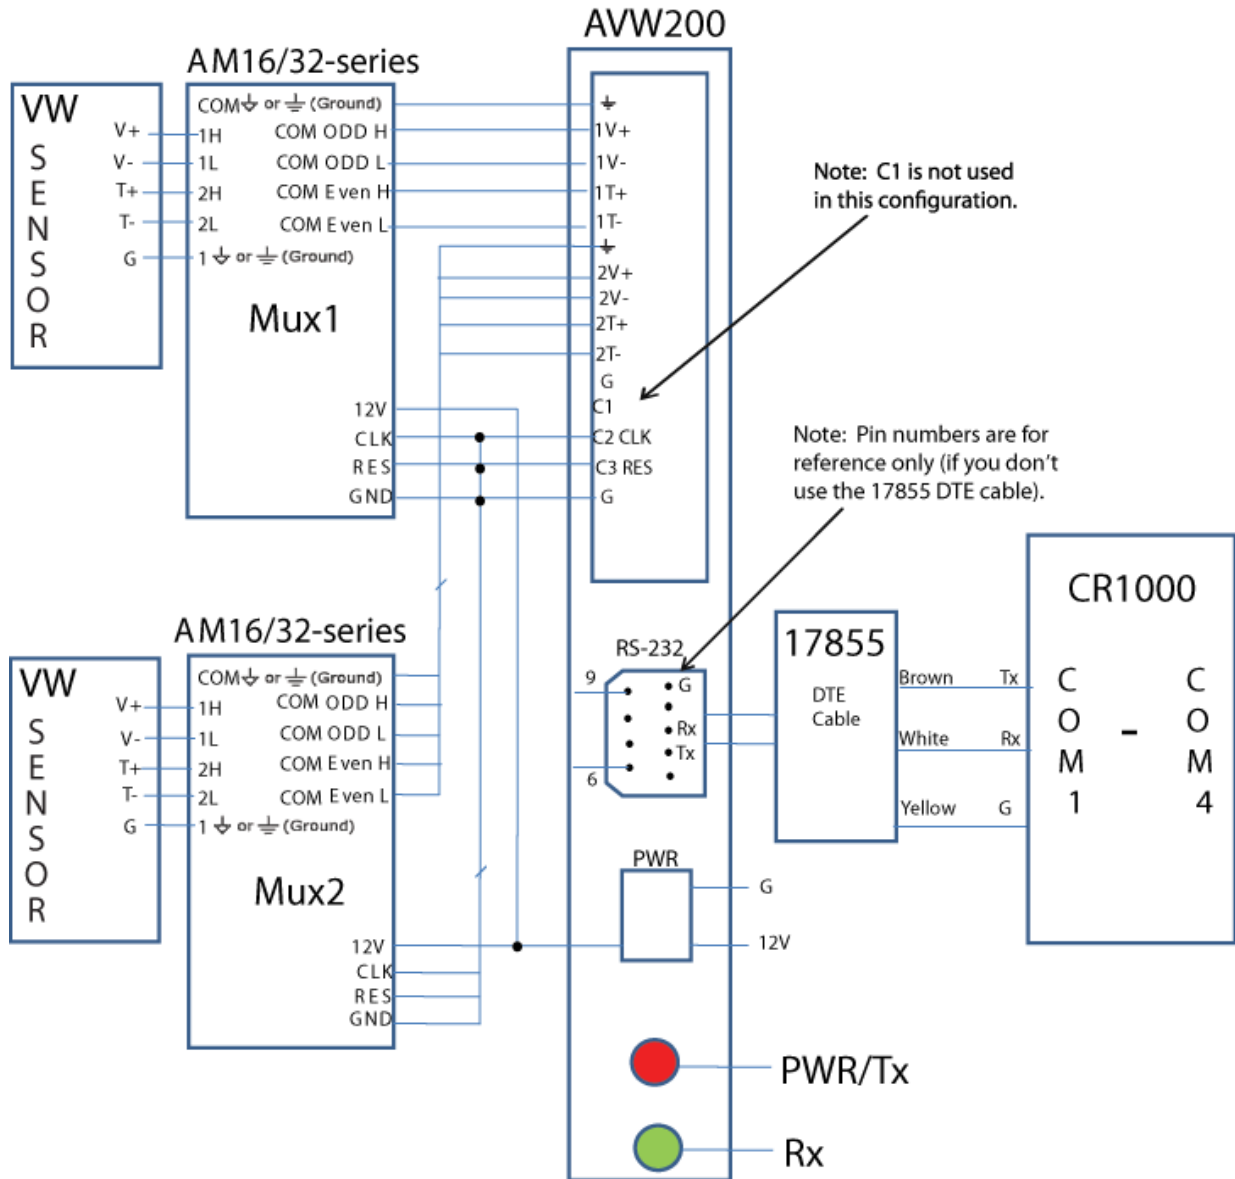

FIGURE 4-4. Example AM16/32-series to AVW200 Hookup (multiplexers controlled by AVW200)
3. Attach the multiplexers to the AVW206 as shown in FIGURE 4-4.
For most applications, it is desirable to have the AVW200 control the multiplexer. A CABLE4CBL or MUXSIGNAL cable connects to the multiplexer's COM terminals, and another CABLE4CBL cable or the MUXPOWER cable connects to the multiplexer's CLK and RESET terminals (see FIGURE 4-4).